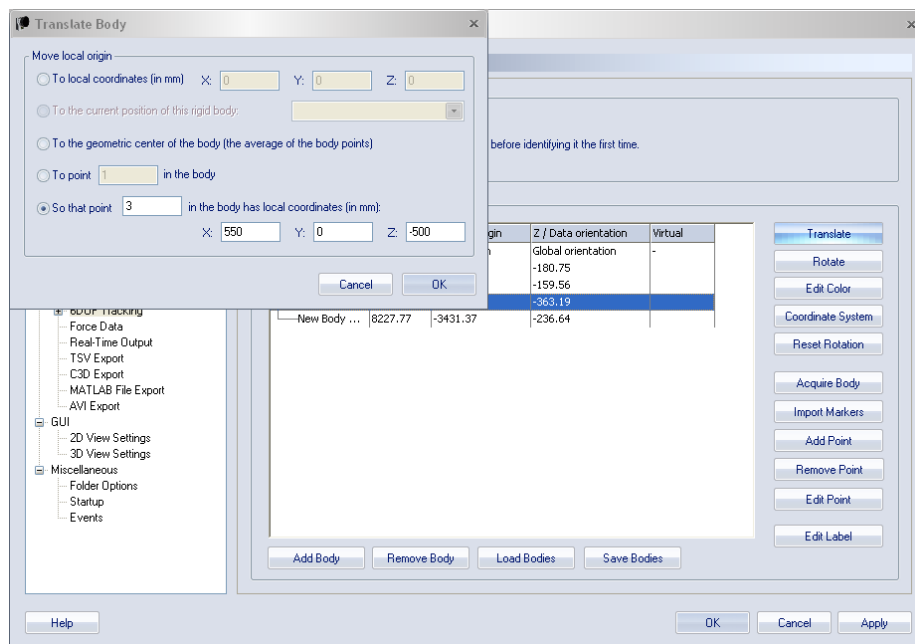
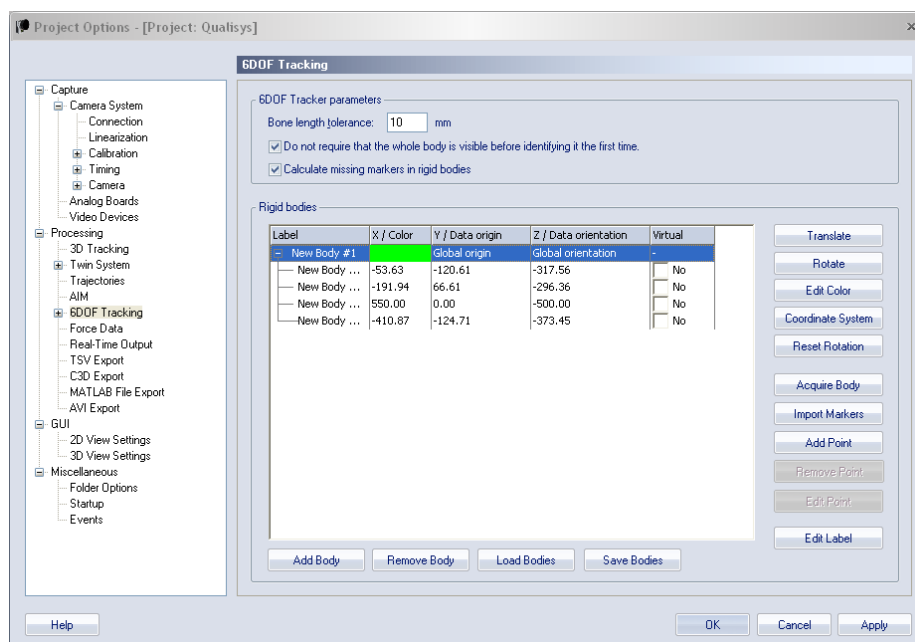

Figure 1.6: Qualisys Track Manager translate body
Figure 1.7: Qualisys Track Manager translated body
- (b) Push “Translate” and enter the coordinates of the chosen reflector in the desired frame. In Figure 1.6, reflector 3 is set at $x, y, z = (0.550, 0, -0.500)$. Figure 1.7 shows the resulting coordinates after translation.